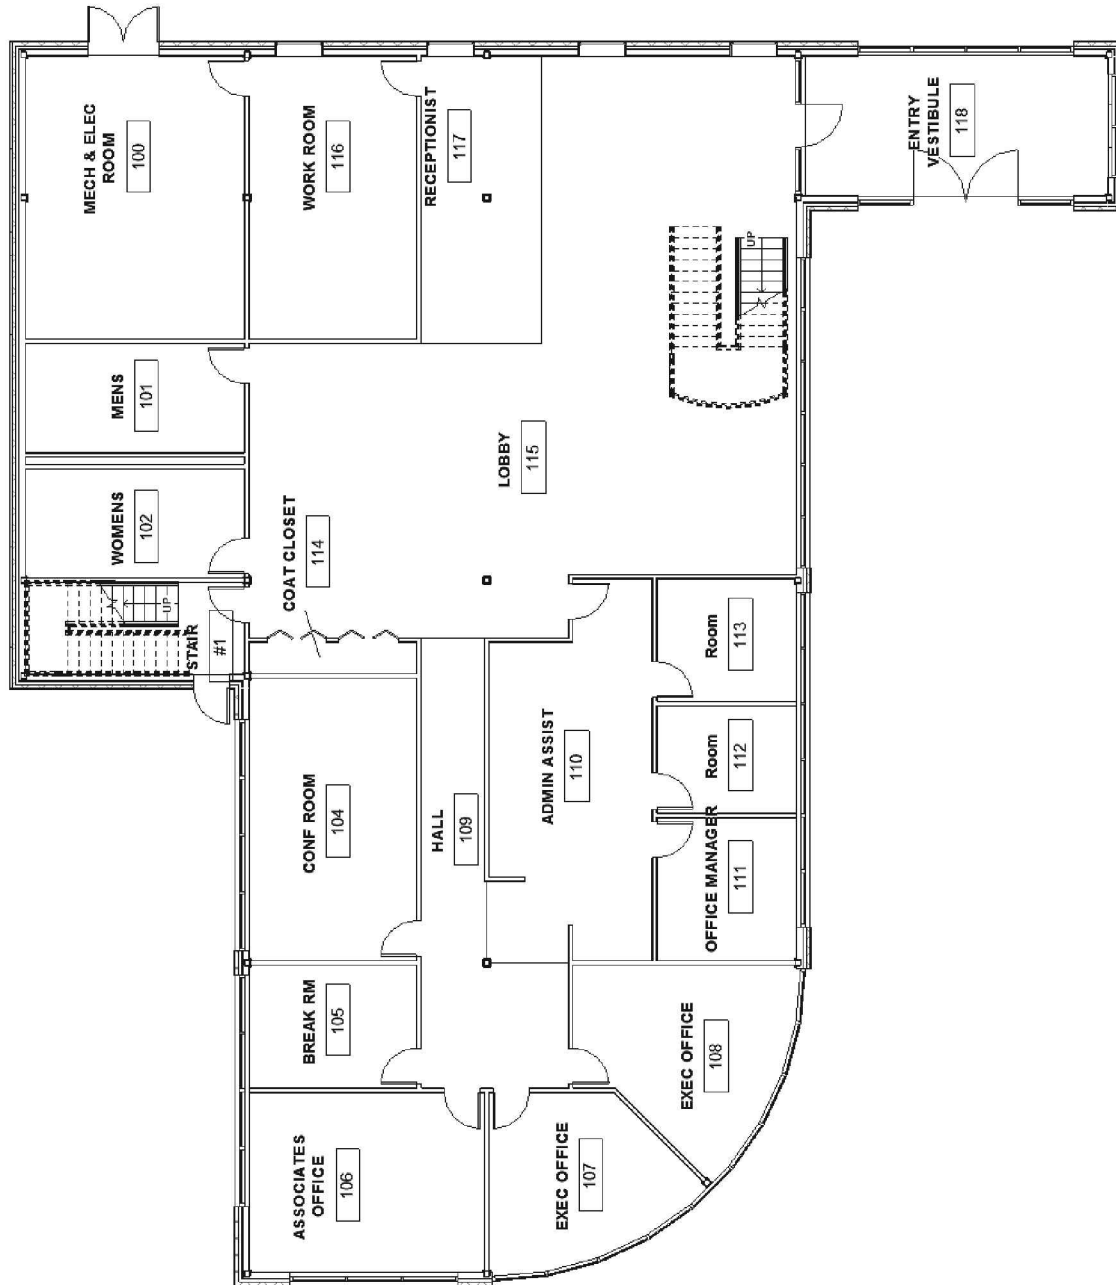

FIGURE 12-1.9 Level 1 room names and numbers; *image rotated on page to increase size*
17. Using the **Room** tool, add *Rooms* for each space on Level 1 and Level 2; change the room name, and number if required, to match Figures 12-1.9 and 12-1.10.